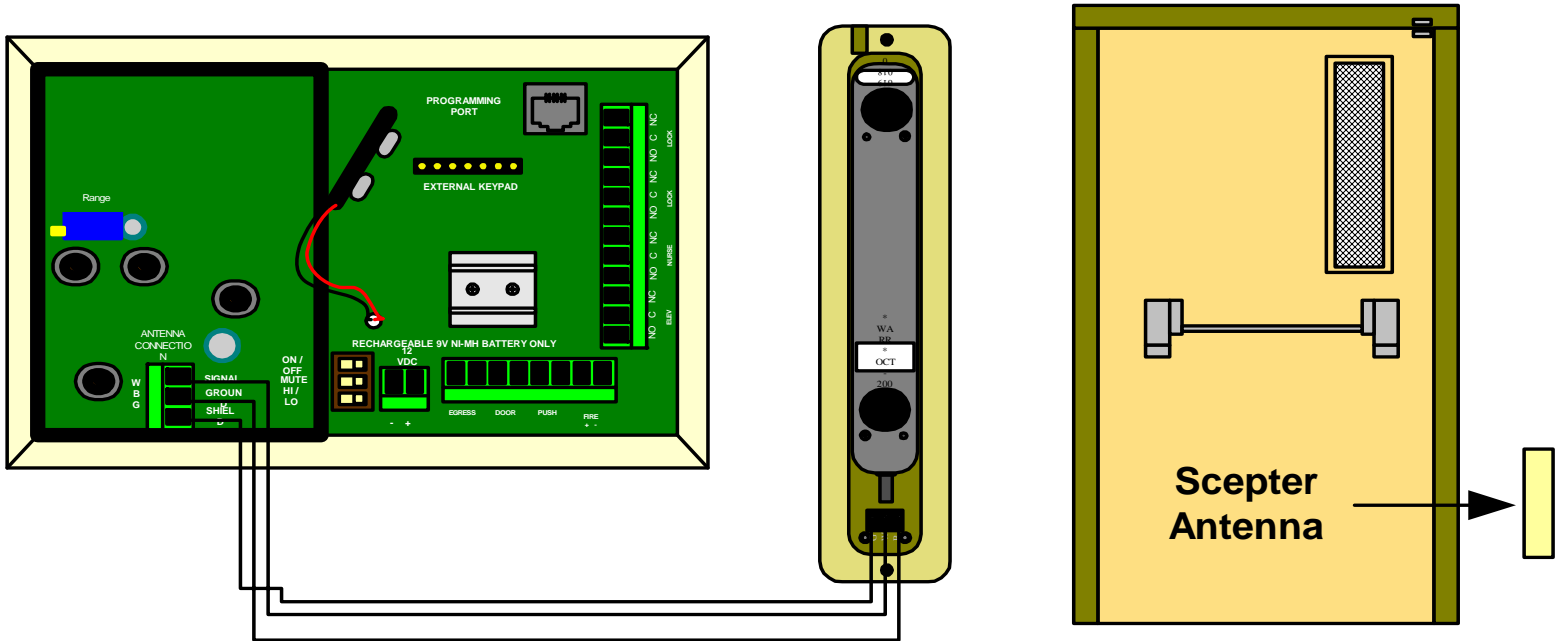

Figure 8-4 Single Antenna Connections
**Connecting a single or double SCP Part #699 Scepter® Antenna:** Use the SCP Part #429 cable provided with the Advantage 1000DE kit. Connect the #699 Scepter® Antenna to the Advantage 1000DE Exit Panel as shown in Fig.8-4 for a single antenna and Fig .8-5 for multiple antenna's. Connections are Signal to W, Ground to B, and Shield to G.